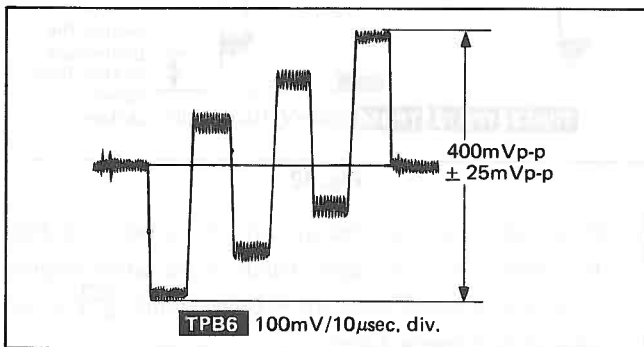

Fig. 37
6. Adjust R619 (SUB. Chroma) so that the **TPB6** becomes $400mVp-p \pm 25mVp-p$ as shown in Fig. 37.